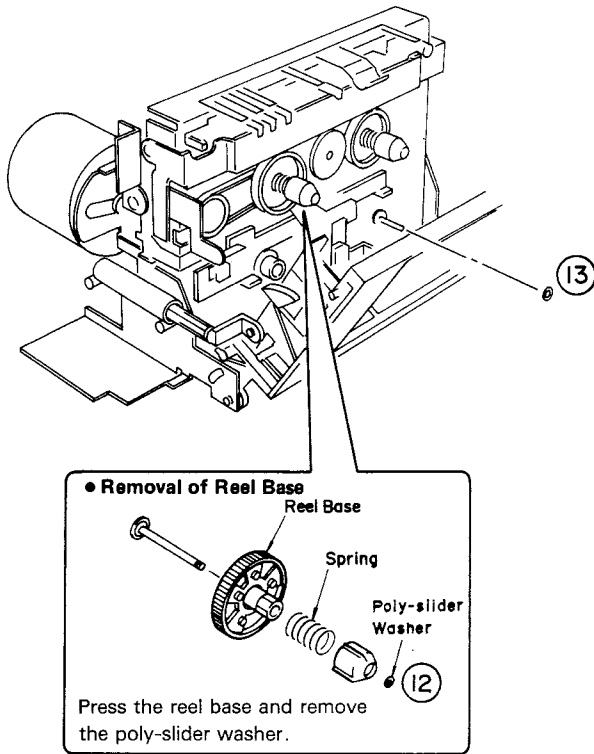

Fig. 9
- a. Remove the washer (12), then remove the reel base as shown in Fig. 9.
- c. Remove the poly-slider washer (13) in Fig.9 and remove the flywheel.